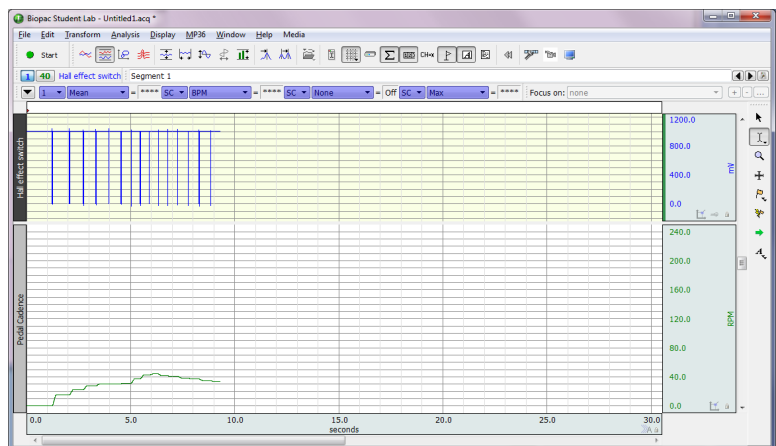

Figure 7
8. Test the setup by clicking **Start** to begin a recording and then rotate the pedals a few rotations, and then click **Stop**. The data should look similar to that in Figure 7.